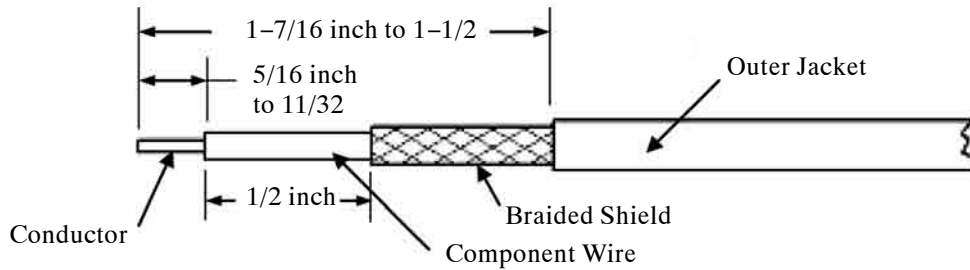

Figure 8. Dimensions for Shielded Cable Splices
(3) Ensure wire is stripped to correct length (Figure 8).
(5) Ensure finished cable and component wire are stripped to correct length (Figure 8).